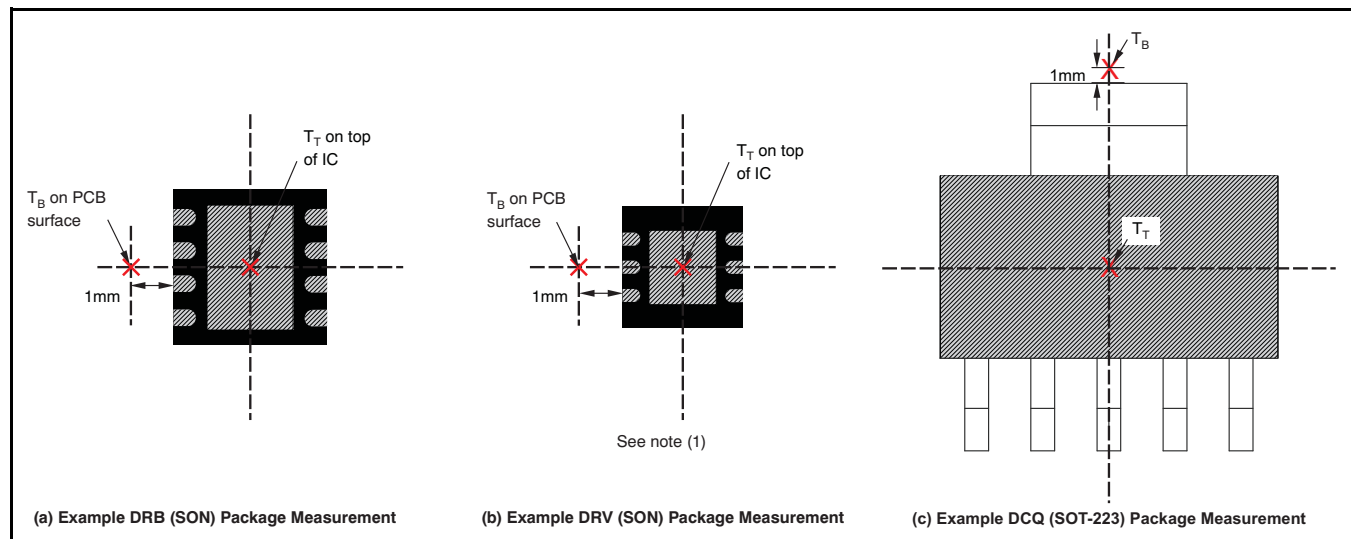

Figure 35. Measuring Points for T_T and T_B
Where P_D is the power dissipation shown by Equation 6, T_T is the temperature at the center-top of the IC package, and T_B is the PCB temperature measured 1mm away from the IC package *on the PCB surface* (as Figure 35 shows).
- Added footnote (3) to *Thermal Information* table 4
- Added footnote to Figure 35 16
- Corrected typo in Figure 35 16